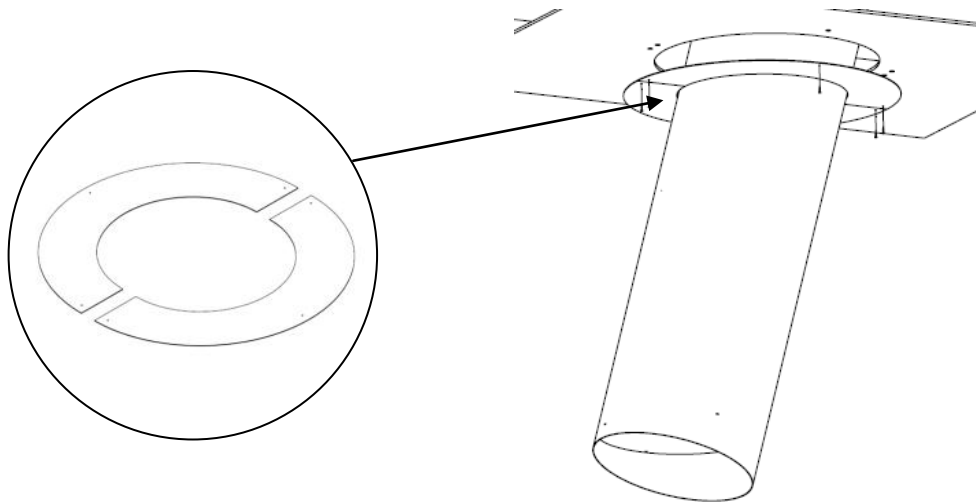

**Figure 4**— Fixation of the Contour 13 tube to the fixation set.
After the Contour 13 fixation set (D) is fixed to the ceiling, place the tube (E) in the part (D) and tighten with the pins provided, as shown in figure 4. Check that the sets are well placed and properly tightened.